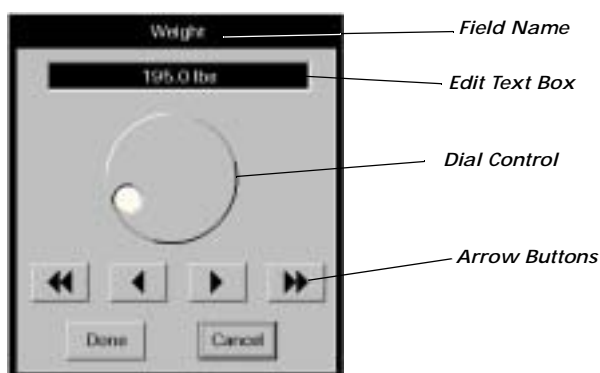

FIGURE 5-4 Weight Dialog Box
1. From the **Demographics** tab, select the **Weight** field. The **Weight** dialog box (FIGURE 5-4) displays.